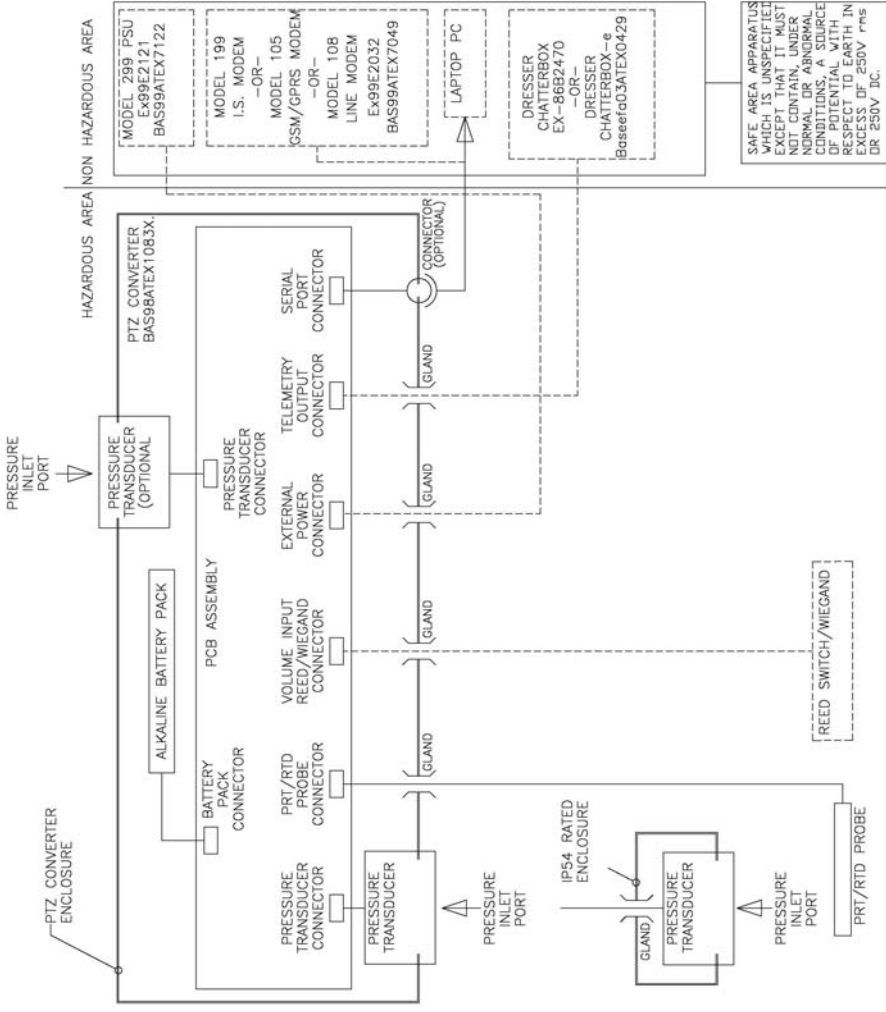
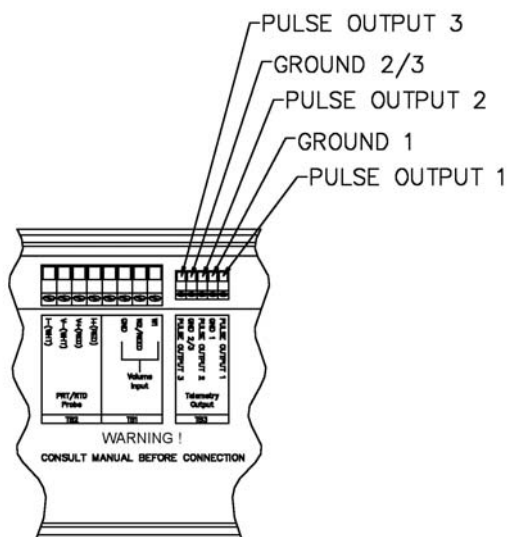

Figure 2 – Intrinsic Safety System Diagram for BASEEFA Compliance
Figure 8 – Telemetry Output Connections (TB3)
The connection of the IMC/W2 to other instruments must be carried out in accordance with the Intrinsic Safety System Diagrams shown in Figure 2 (Intrinsic Safety System Diagram for Baseefa Compliance). Use Figure 2 (Intrinsic Safety System Diagram for Baseefa Compliance) to achieve compliance with Baseefa requirements, with consideration to the following notes:
7. The serial port may be connected to the I.S. modem (Cert No. BAS99ATEX7049) at any time in accordance with Figure 2 (Intrinsic Safety System Diagram for Baseefa Compliance), and then the cable must comply with note 5.
Where an IMC/W2 installation must meet Intrinsic Safety requirements, refer to the Intrinsic Safety System Diagram (Figure 2) and section 4 (Safety) before commencing installation. It is essential to follow any National Codes of Practice dealing with Intrinsically Safe installations. All Intrinsically Safe circuits must be segregated from non-I.S. circuits. The transducers used in and with the IMC/W2 are intrinsically safe.
Connection of any non intrinsically safe equipment not detailed in the System Drawing (Figure 2) into the IMC/W2 must be properly assessed by the user. The manufacturer (Dresser) will not take responsibility for the overall safety of the system.
Figure 8 (Telemetry Output Connection (TB3)) shows the connections for the telemetry output. Other Dresser approved product, such as the Chatterbox (isolation unit) may be connected to the telemetry outputs. Any equipment connected to the telemetry output must be individually assessed to ensure that the system is safe. Connection to intrinsically safe equipment not detailed in the system drawing (see Figure 2 (Intrinsic Safety System Diagram for Baseefa Compliance)) must be properly assessed by the user. The manufacturer (Dresser) will not take responsibility for the overall safety of the system.